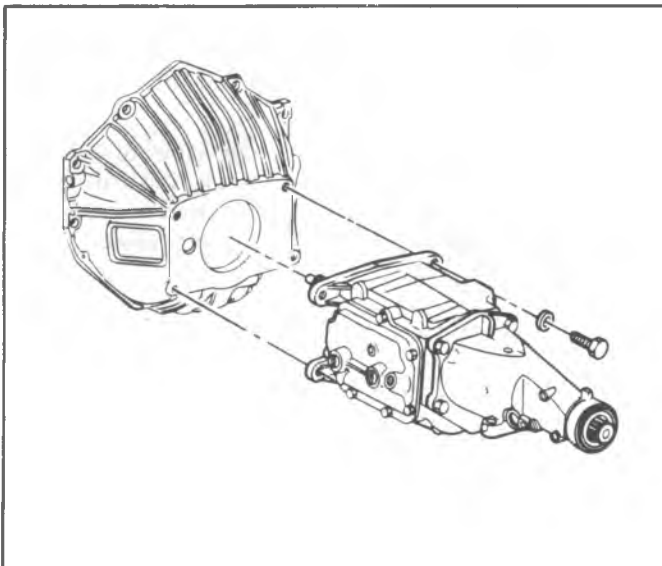

Fig. 7B2-1--Transmission To Engine Attachment
9. Move the transmission assembly straight away from the engine, using care to keep the transmission main drive gear shaft in alignment with the clutch disc hub. Refer to Fig. 7B2-1.